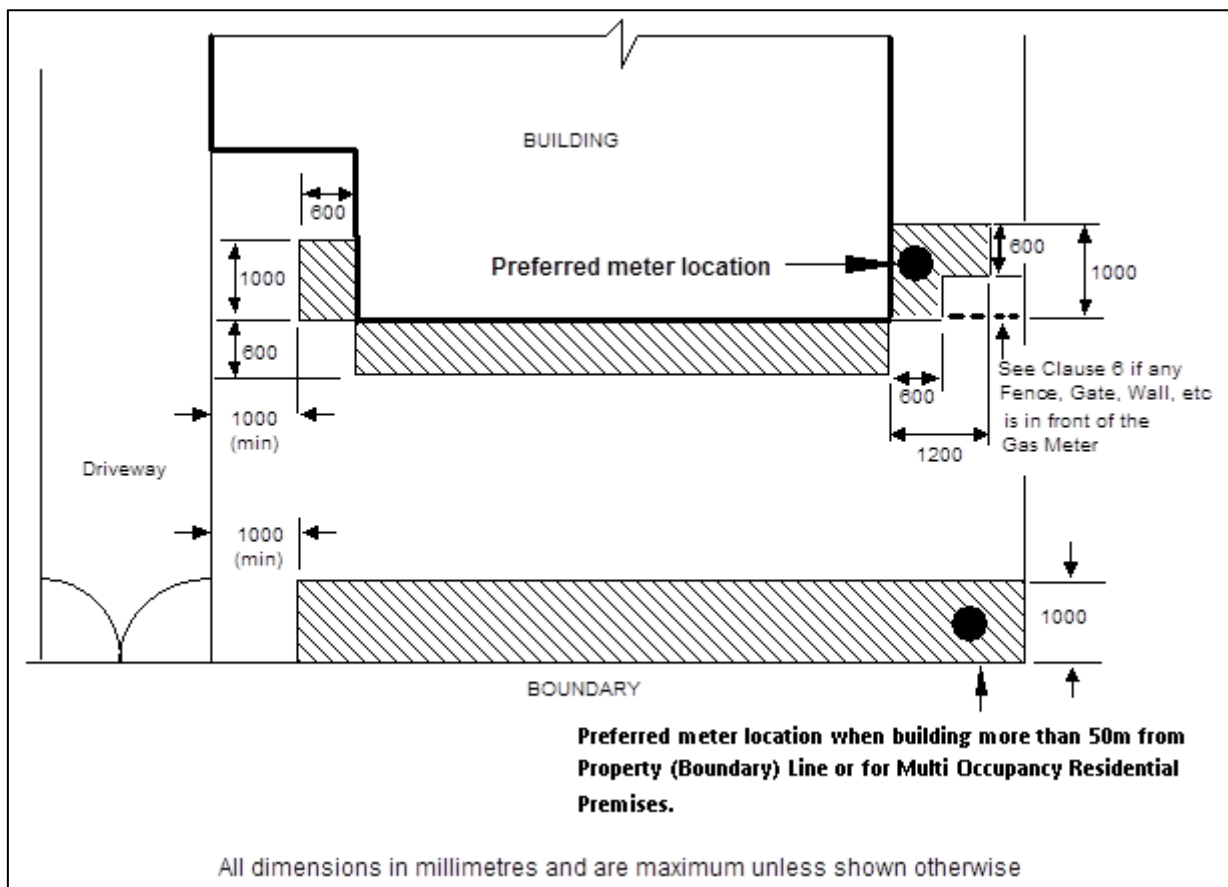

Figure 1 – Preferred meter location
The meter shall be located such that it is readily accessible and in a safe location that permits ease of reading, safe venting, maintenance and replacement. The nominated location should also ensure that the meter is external to any building. The preferred location is shown in Figure 1. Meter connections are subject to an Economic Feasibility Test based on agreement between all parties involved; negotiation should take place at the first gas supply request.
For single occupancy premises, individual meter placement should comply with Figure 1 below.
For dual or multiple occupancy premises all individual meters should be located at the front boundary of a property, (refer Figure 1 of this standard).
- k) 1000mm from a driveway or vehicle access at the time the meter was first installed. Refer figure 1. Note: if changes to vehicle access are made post the installation of the meter an assessment on vehicle impact cannot be made.